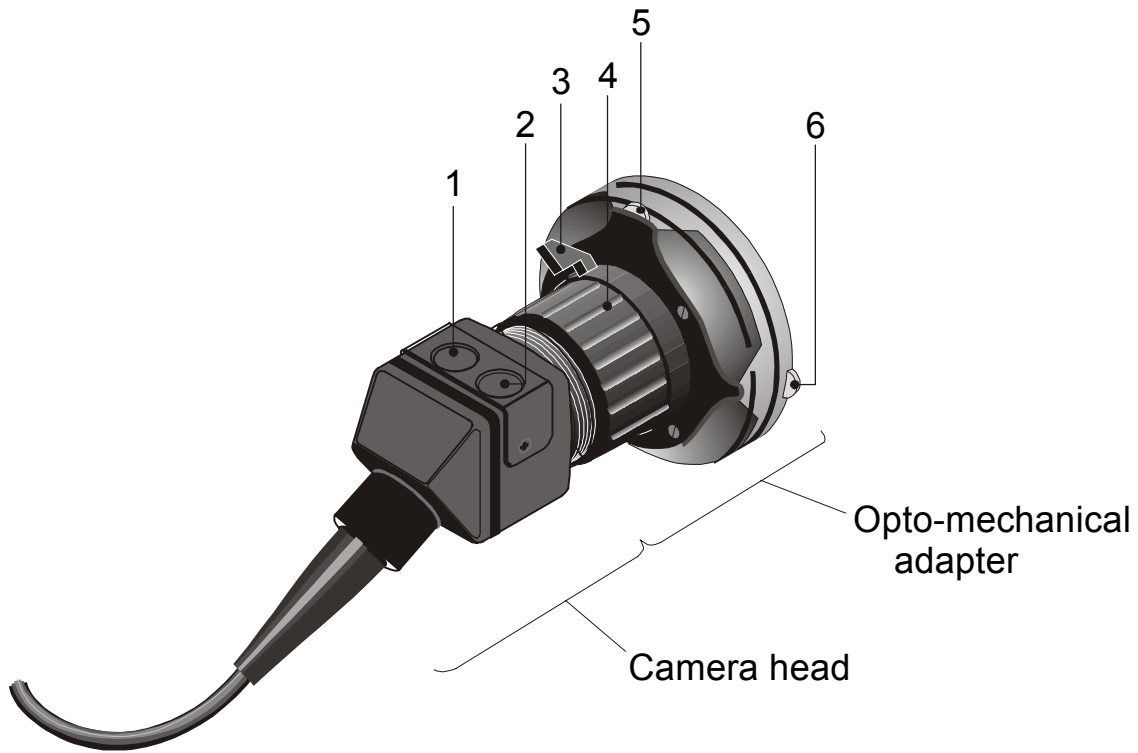

Figure 3. Camera head and opto-mechanical adapter
**NOTE** - While assembling the opto-mechanical adapter and connecting it to the camera head, please make sure that the free-spin lock on the opto-mechanical adapter (refer to Figure 3) is in its locked position.
1. While using a flexible endoscope, release the free-spin lock of the opto-mechanical adapter (refer to Figure 3) and rotate the endoscope until the arrow in the view field points to twelve o'clock. Then return the free-spin lock to its locked position.
2. The centering mechanism has two adjustment knobs (refer to Figure 3). When the view field of the flexible endoscope is correctly oriented at twelve o'clock, the knobs are positioned on the top and the right side of the mechanism. Turn these knobs to move the image up or down (right knob) and right or left (top knob) on the monitor.